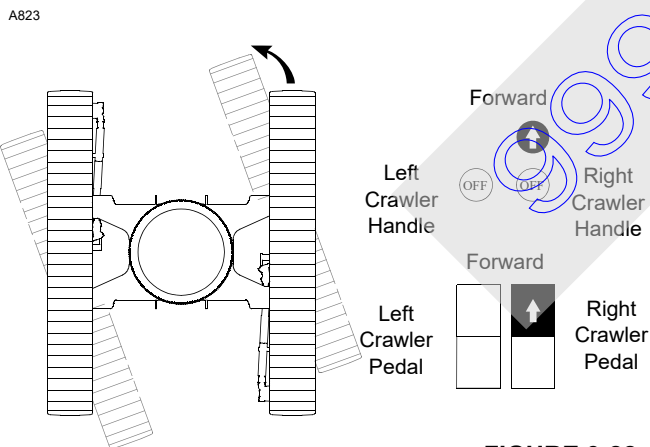

FIGURE 3-22
- Avoid sharp turns (Figure 3-22) if possible.
8. To make a SHARP LEFT TURN (Figure 3-22), move right crawler handle/pedal to front from off and leave left crawler handle/pedal in off. Crane will pivot about left crawler.